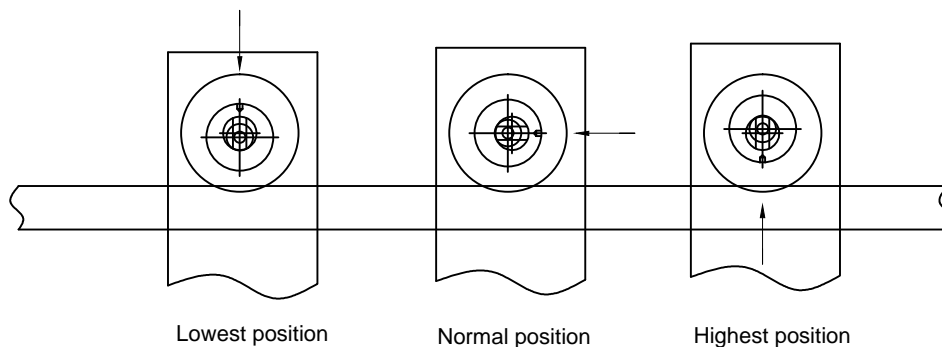

FIG. 1A
2. Fig. 1A displays the 3 different positions.